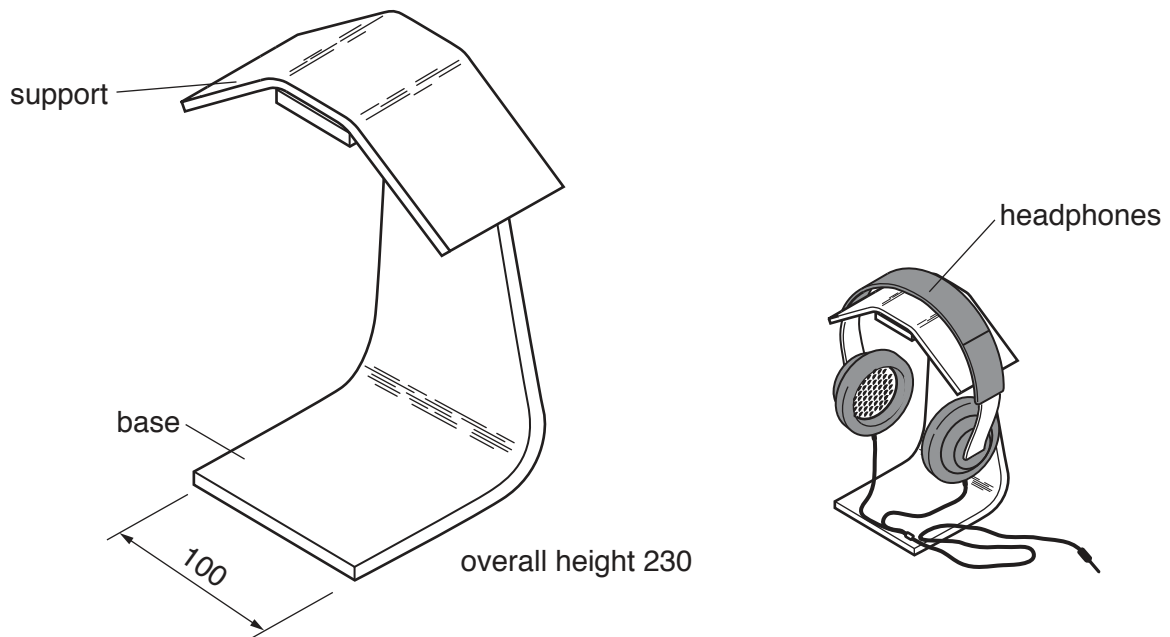

Fig. 11
- 12 Fig. 11 shows a headphone stand made from 5 thick acrylic. The headphone stand has two main parts: a base and a support.